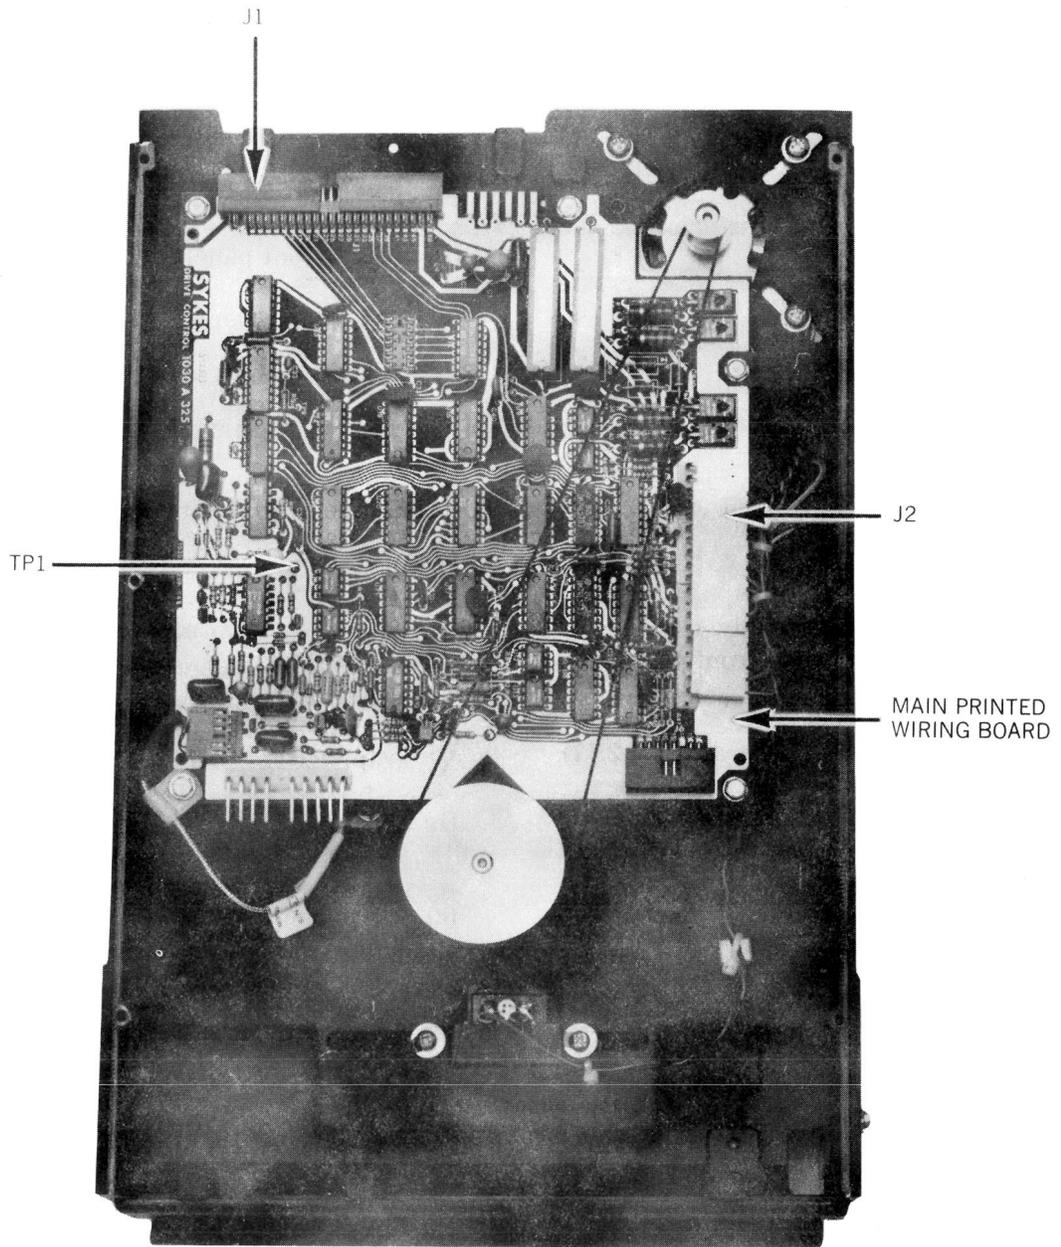

Fig. 6—Bottom View of FDD
- (h) Connect a digital voltmeter or an oscilloscope between TP1 (Fig. 6) on the Drive Control circuit board and chassis ground. Set the meter to the 3 volt AC range.
- (1) Inspect the pad for any ridges. If necessary use a fine emery board and gently rub the surface of the pad to insure a flat surface.
- (2) Repeat Step (1). If the condition is still not corrected, replace the head load pad and repeat the procedure.